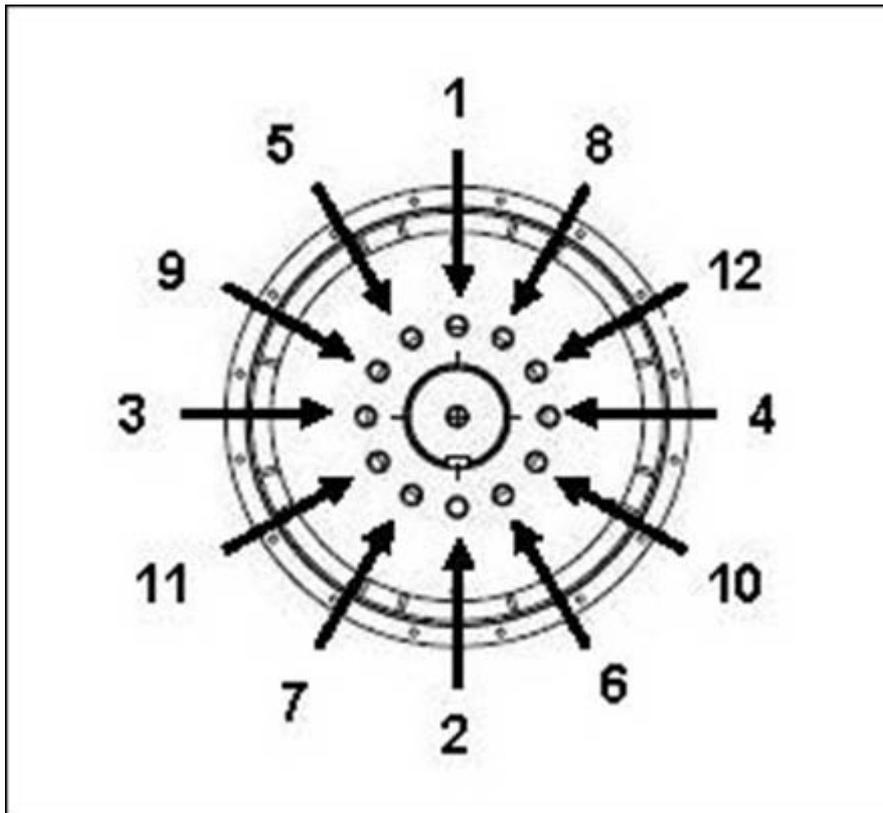

FIGURE 22. FIXING SEQUENCE TO HUB
4. If required, tighten the coupling disc bolts in the sequence shown in Figure 22 on page 40.